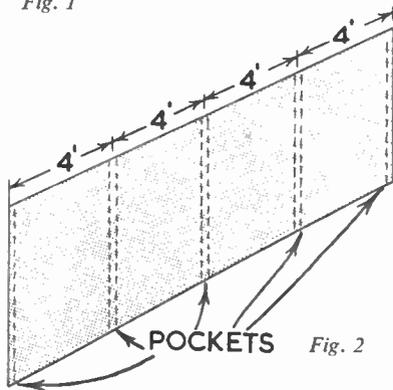

Fig. 2
a screw bolt of suitable size. The length of these bolts should not exceed $\frac{3}{4}$ in. or they prove difficult to get in position. First, in each leg, bore a hole through for the bolt to pass. The position of the hole is important, as the edge of the leg must butt up against the spring, as at (D), in Fig. 2, to prevent it shifting sideways. The distance given for the hole will, in most cases, be about correct, but it would be as well to test by laying the leg in position on the finger grip, and run-
To fix, first drop a small metal washer over the bolt, then pass it through the hole in finger grip, then through the leg to the outside. Thread a nut on, and twist it up tight. Treat both legs alike, when both should be firmly attached to the spring, with no tendency to move sideways. Fig. 2 (E), shows the inside face of one leg, and how the bolt is first secured through one of the finger grips of the paper clip. (W.J.E.)